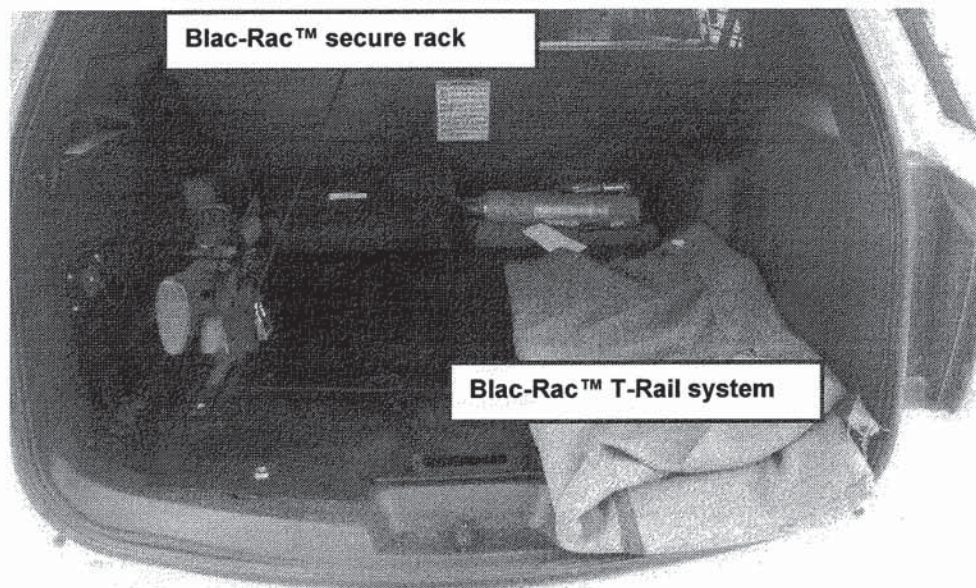

Figure 30 - D&R Electronics® - Electronics Sub Panel Mount with PCVSS installation
47. Only a secure rack shall be used to secure carbines within Ford Police Interceptor Utility marked MP vehicle. The approved secure racks consist of a mounting system that securely clamps around the barrel, front hand guard, or other portion of the carbine. These racks shall prevent the carbine from being removed by disassembling the upper and lower end receivers and should also securely cover the trigger and magazine release buttons. Approved racks shall be located inside the vehicle trunk and secured horizontally on the electronics sub panel mount lid (see *Figures 30 and 31*). The rack and the T-Rail shall be fastened in a tamper-resistant manner (tamper-proof bolt and nuts).